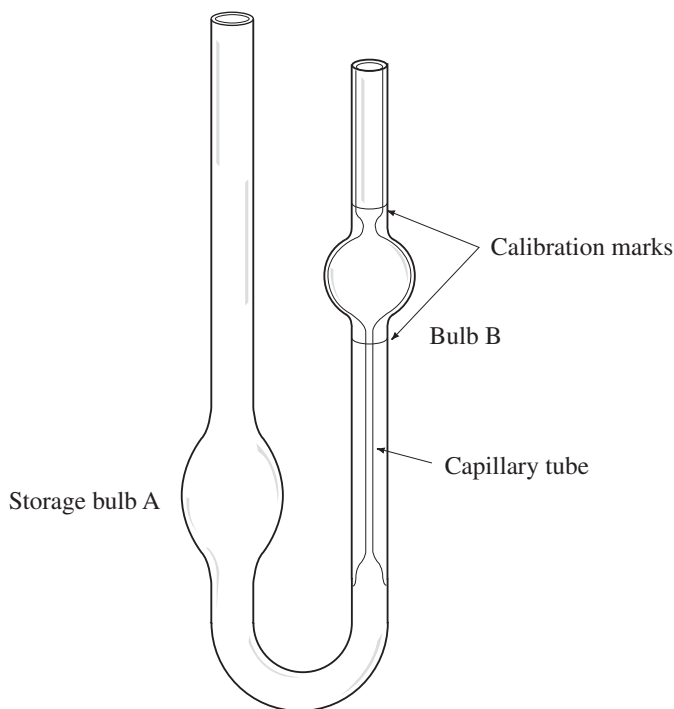

Figure 44.3
In practice, we can measure viscosity by the efflux time of a liquid in a viscometer (Figure 44.3). The capillary viscometer is made of two bulbs connected by a tube in which the liquid must flow through a capillary tube. The capillary tube provides a laminary flow in which concentric layers of the liquid slide past each other. Originally, the liquid is placed in the storage bulb (A). By applying suction above the capillary, the liquid is